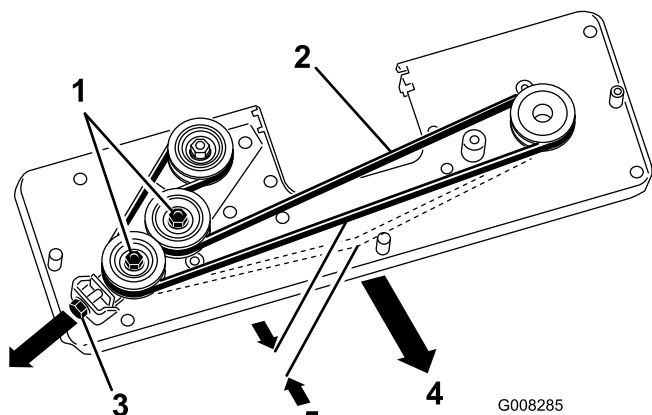

Figure 36
4. Loosen the 2 hex nuts on the idler pulley (Figure 36).
5. Adjust the M10 nut until the belt flexes 5 mm with 30 N of force (Figure 36).